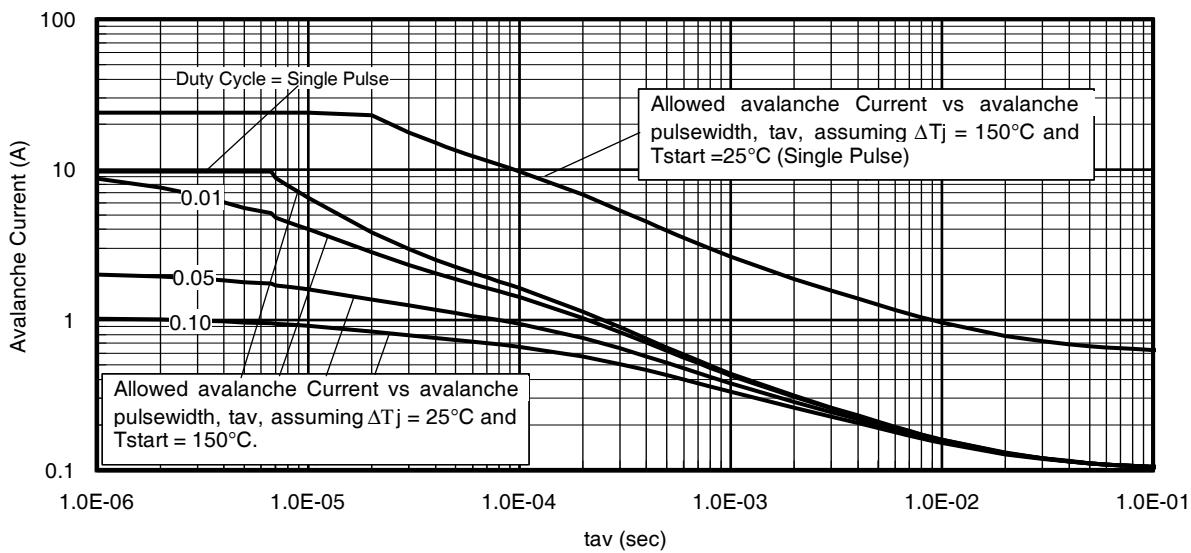

Fig 16. Typical Avalanche Current vs. Pulsewidth
Notes on Repetitive Avalanche Curves , Figures 16, 17:
7.  $\Delta T$  = Allowable rise in junction temperature, not to exceed  $T_{jmax}$  (assumed as 25°C in Figure 16, 17).